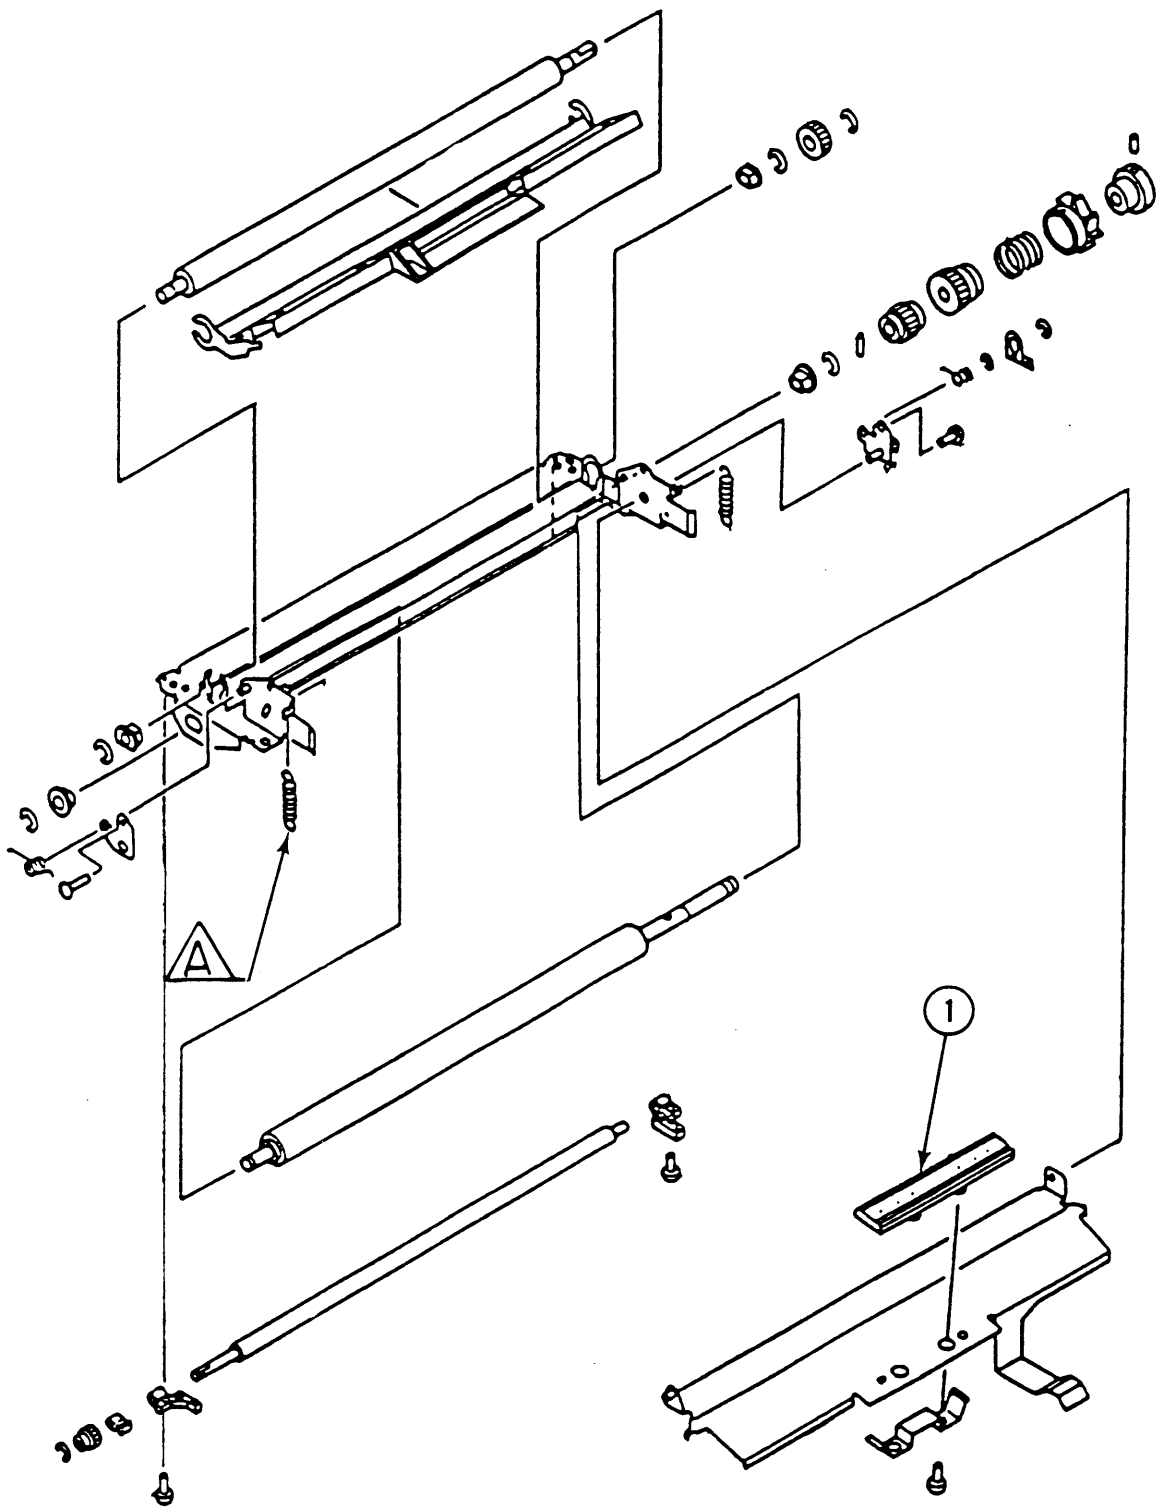

FIGURE 16
□ **TRANSFER GUIDE ASSEMBLY (Figure 16)**